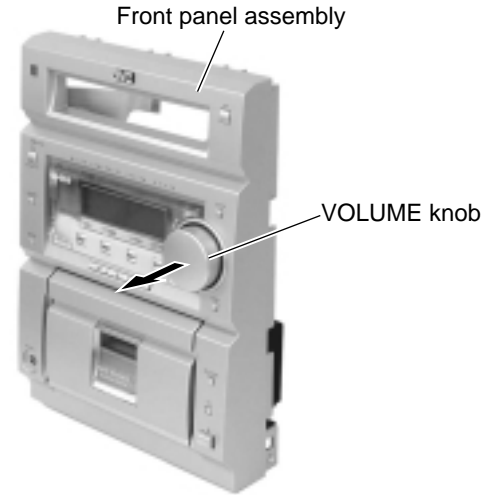

Fig.20
■Removing the display board / switch board (See Fig.20 to 22)